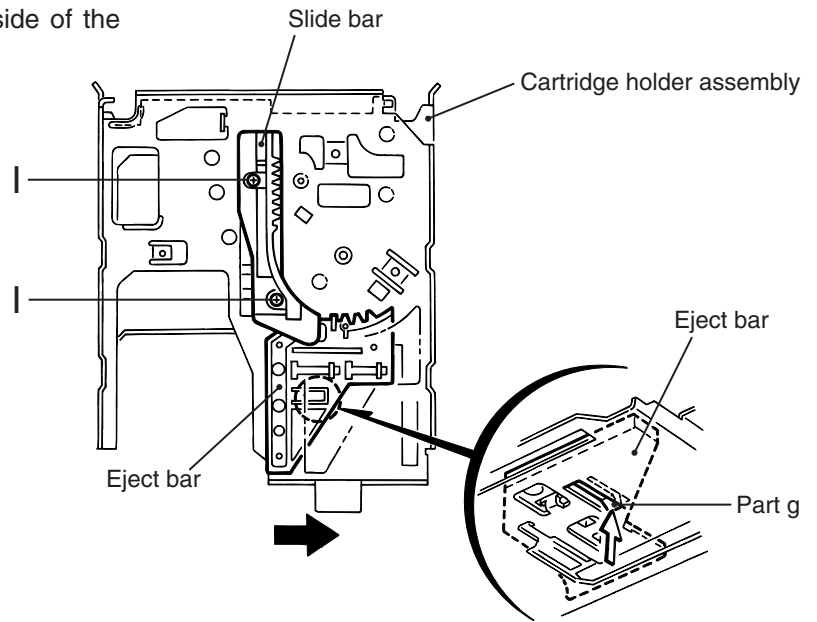

Fig.14
## ■ Removing the cartridge holder assembly (See Fig.14 and 15)
## ■ Removing the slide bar and the eject bar (See Fig.14 and 15)
2. Move the eject bar outward until it stops as shown in Fig.14. Push the convex part g on the bottom of the body and remove the eject bar from the chassis.